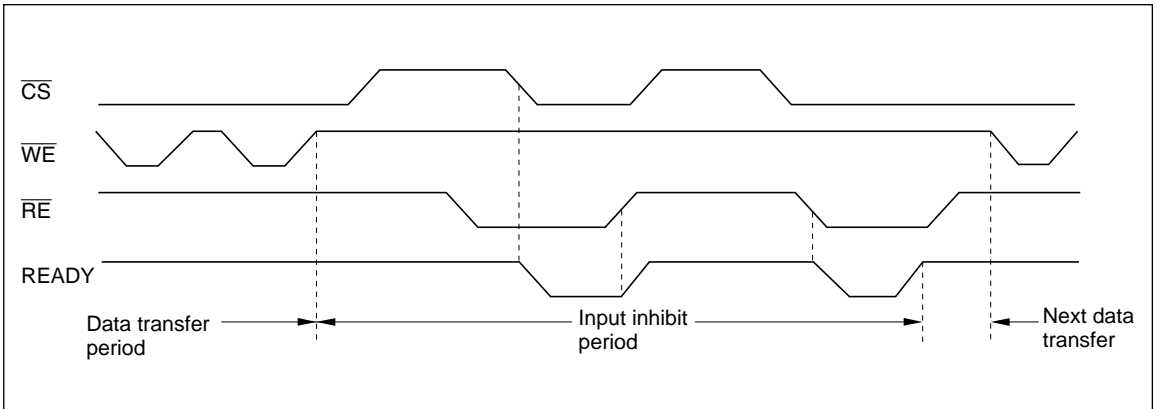

Figure 17 READY Output Timing (When It Is Made Available by \overline{CS} and \overline{RE})
- b. READY is mode available by \overline{CS} and \overline{RE} (figure 17).